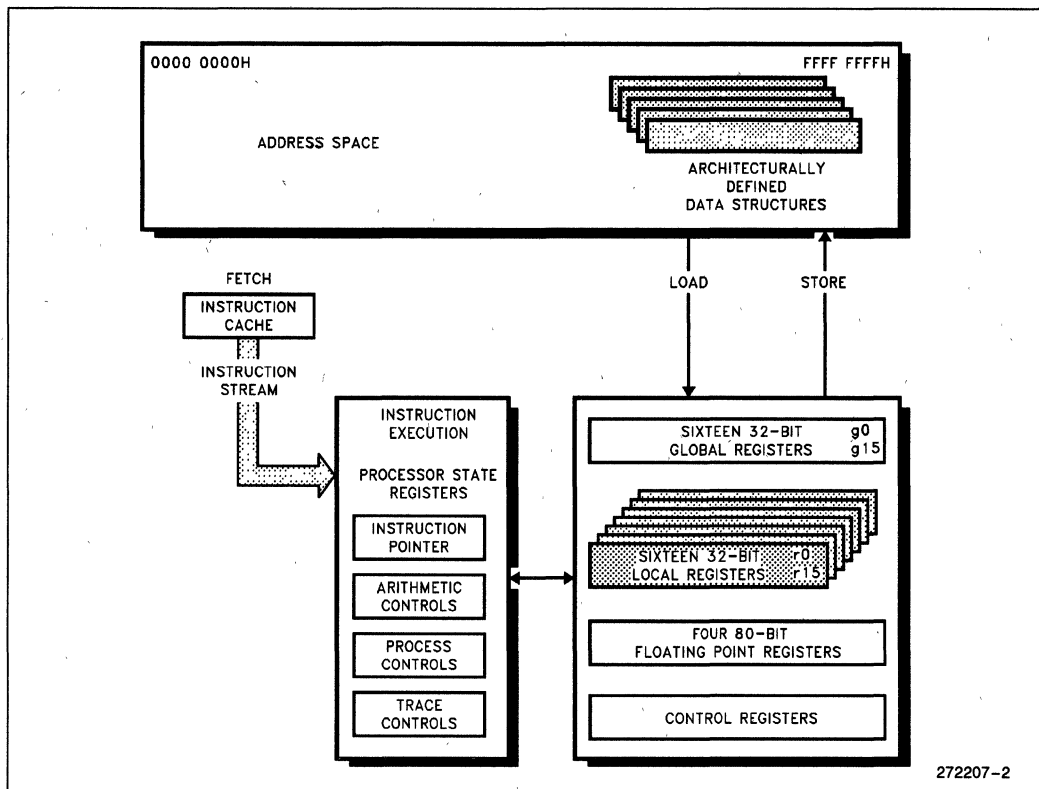

Figure 2. 80960SB Programming Environment
- 1. Large Register Set.** Having a large number of registers reduces the number of times that a processor needs to access memory. Modern compilers can take advantage of this feature to optimize execution speed. For maximum flexibility, the 80960SB provides thirty-two 32-bit registers and four 80-bit floating point registers. (See Figure 2.)